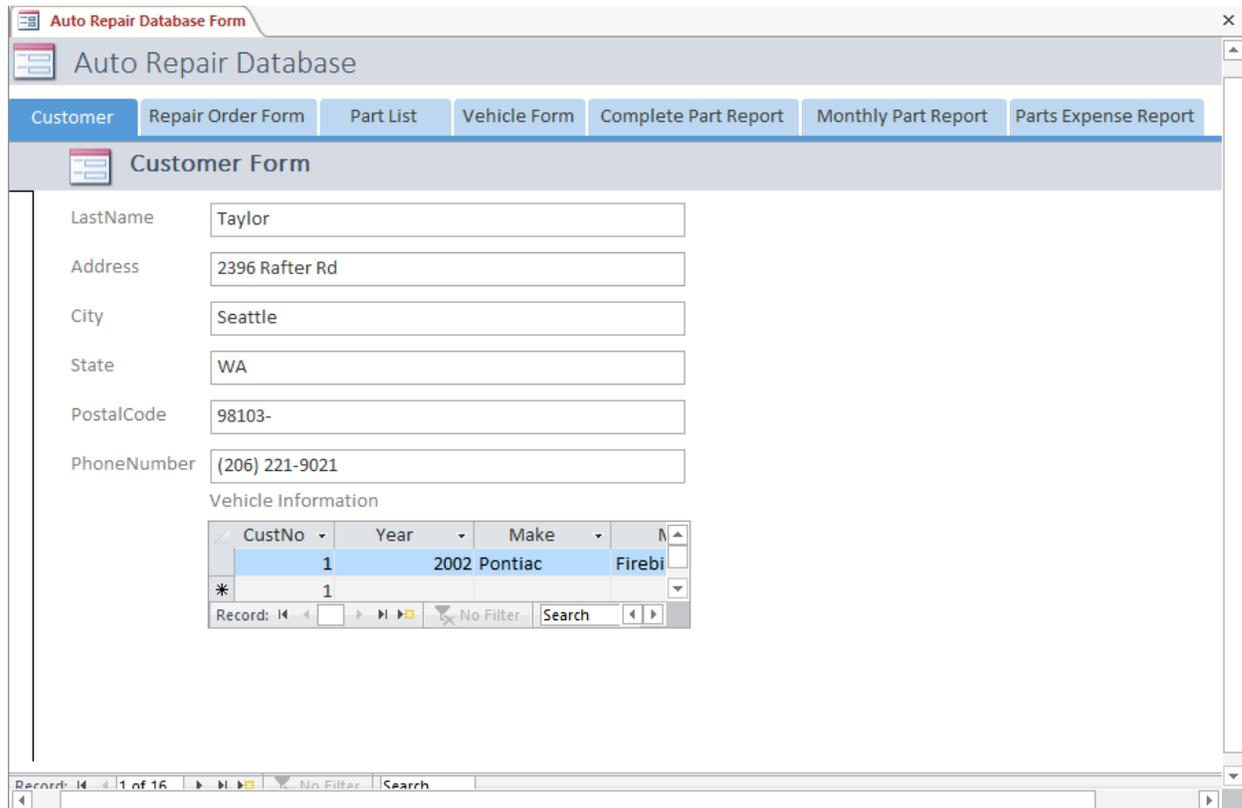

Figure 18: Completed Navigation Form in Form View
9. View Completed Navigation Pane: Switch to form view to see the completed navigation form (Figure 18) with an object added to the object pane of each tab.